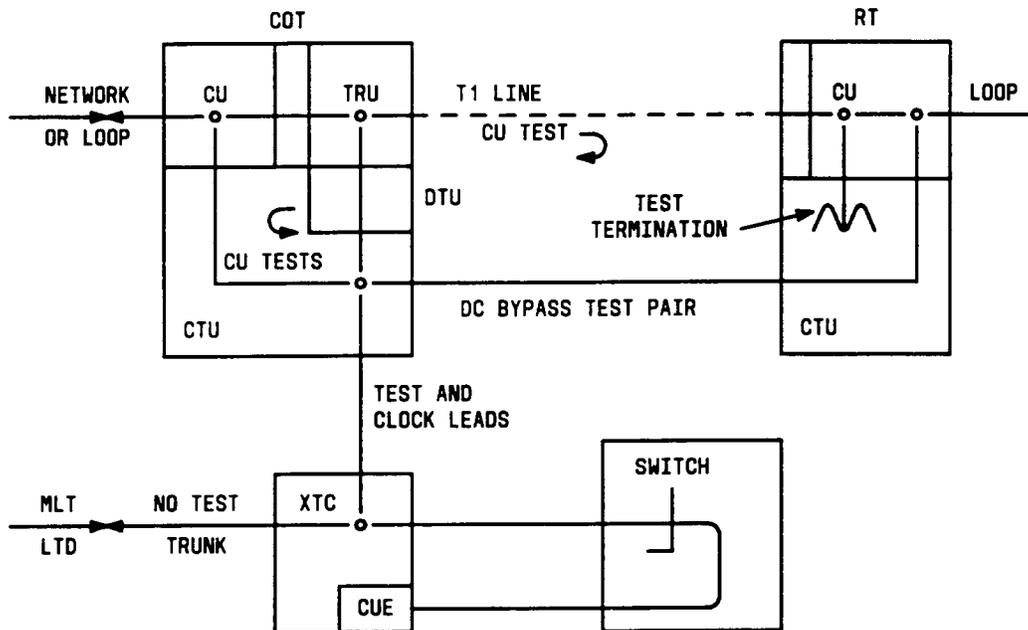

Figure 18 — MLT/LTD Nonlocally Switched Test Access Configuration
3.24 The XTC is used by MLT-2/LTD, but not by MLT-1, to test nonlocally switched circuits served by the SLC Series 5 carrier system FPC or FPD equipped with the AUB5 and AUB25 CTUs at the COT and RT, respectively (Figure 18).